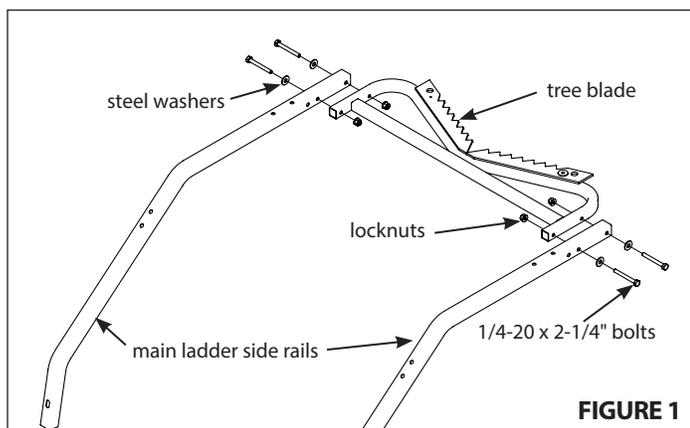

FIGURE 1
1. Attach the tree blade (10373) to the main ladder side rails (10346) using (4) provided 1/4-20 x 2-1/4" bolts, locknuts and steel washers. **SEE FIGURE 1. DO NOT tighten all nut and bolt assemblies completely!**
- a. Position (2) people at the platform end of the ladder, lift the platform end, and continue uprighting by walking toward bottom end of ladder and moving hands along ladder legs. **Stand ladder up against chosen straight tree on dry, level ground.** Use caution when ladder comes over center against tree.
- e. Wrap the previously attached 15' tie-off ropes hanging down from platform, around the back side of tree in opposite directions of each other. Pull the ropes snug and tie them to the ladder at the stabilizer bar height location. This ground level ladder-to-tree attachment will prevent the ladder from pulling away from the tree while ascending to top for final ratchet strap attachment. The same holds true when ladder removal is necessary. **SEE FIGURE 1.**